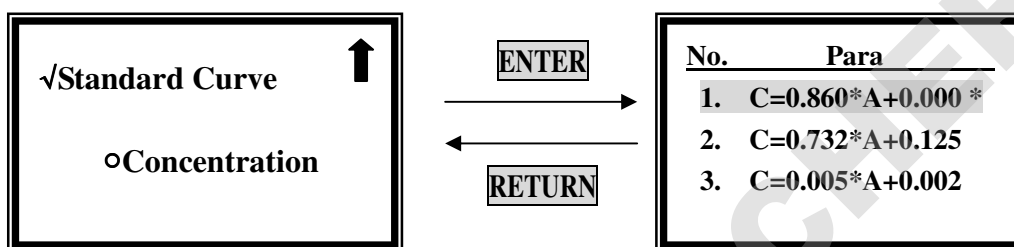

Fig. 18
**【ENTER】** to confirm. (Fig. 18)